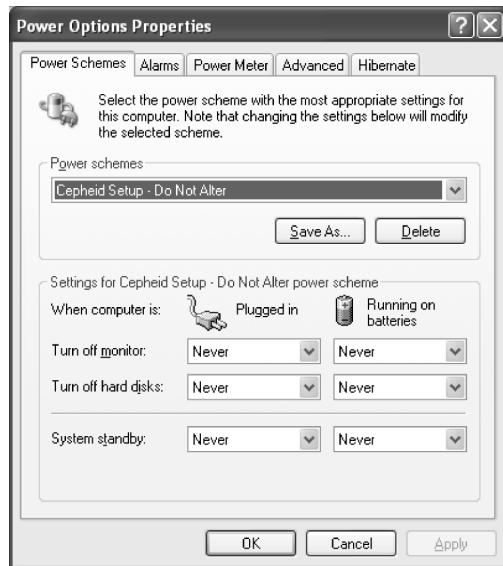

Figure 2-7. Power Options Properties dialog box for desktop computers
2. Select Performance and Maintenance option, and then double-click **Power Options** icon. The Power Options Properties dialog box appears (Figure 2-7).